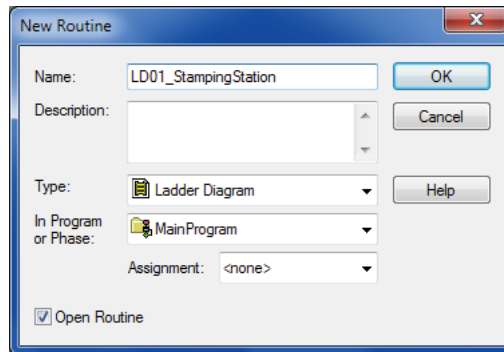

Figure 98. New ladder routine.
- Right-click *MainProgram* and select *Add ► New Routine*. Enter the information found in Figure 98 to create a new ladder routine called *LD01_StampingStation*.